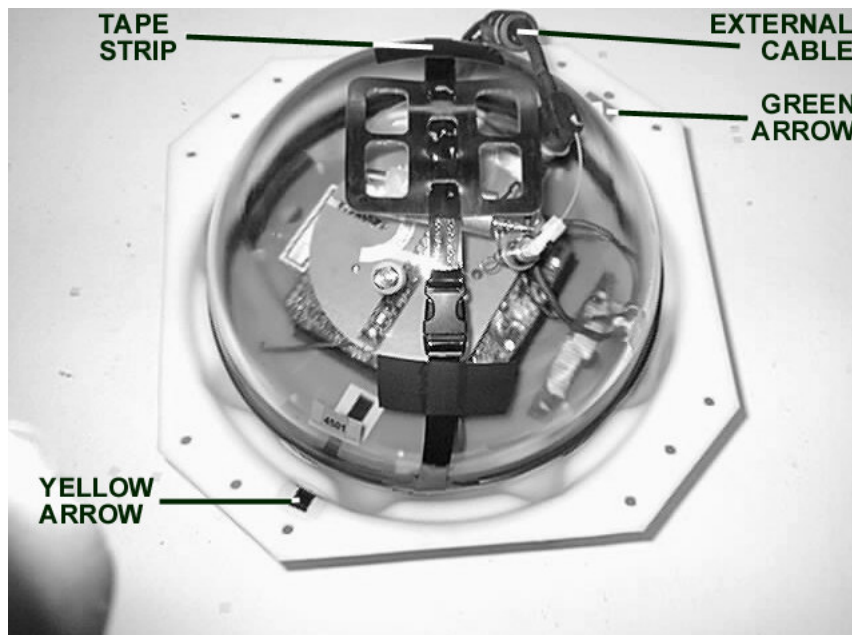
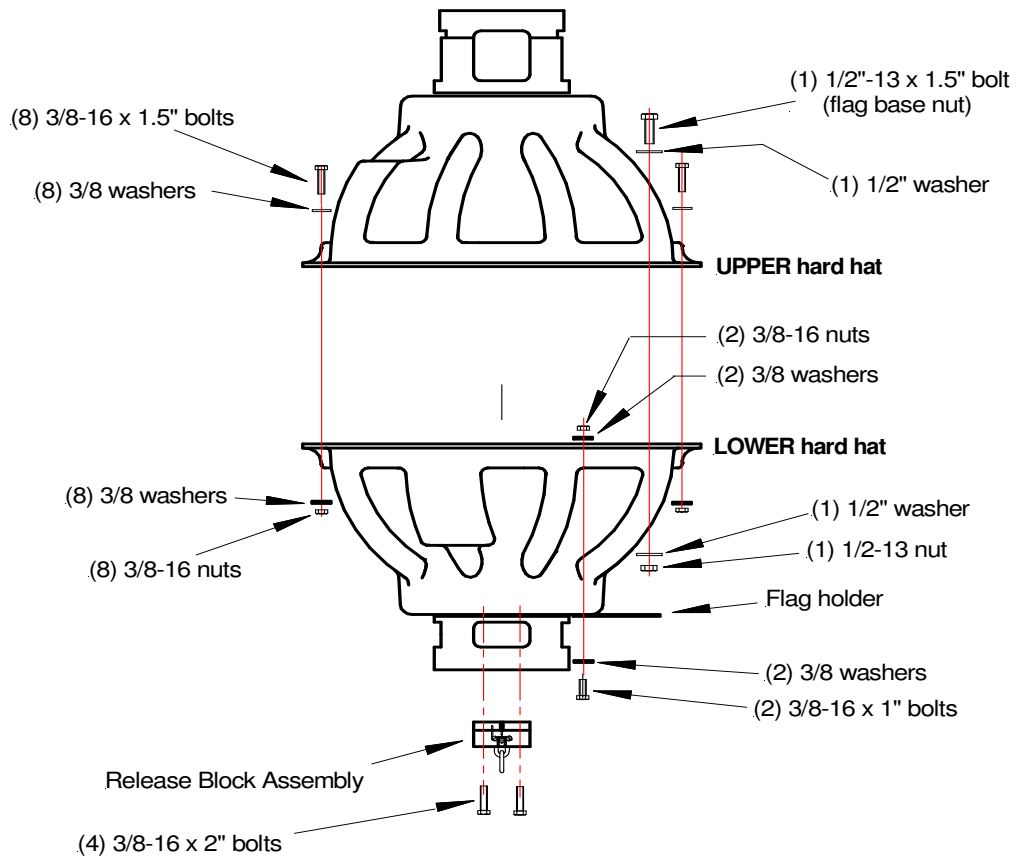

Figure 7-2 Placing the Sphere in the Hard Hat
Figure 7-3 IES Hard Hat Assembly Hardware
After the electronics are sealed inside the glass sphere, follow these steps to install the sphere inside the white plastic hard hat as shown in Figure 7-2. The hardware required to assemble the hard hat is shown in Figure 7-3.
2. Lift the IES sphere assembly by the rubber lifting handle (transducer pointing down) and lower it into the hard hat... rotate the IES until the yellow arrow label on the edge of the hard hat is aligned with the yellow arrow on the glass hemisphere. See Figure 7-2.
6. Install the release block as shown in Figure 7-3. Orient the release block so that the anode/cathode connectors are nearest the hole in the hard hat assembly.